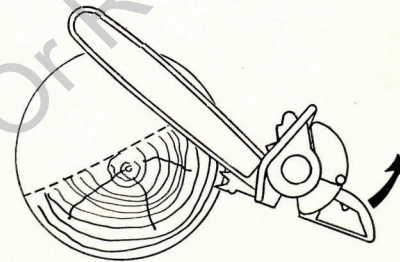

Figure 4—Pivot Action With Straight Blade
(3) Before making a cut, select a path of safe retreat to be used when the tree is falling. Clear all brush and obstructions from this path, and also from the immediate cutting area, so nothing will interfere with the saw. Observers should remain a safe distance from all sawing operations.
(4) Be sure of your balance at all times. When starting a cut always place the spikes against the wood (see figure 4) before engaging the chain. Otherwise, you may lose your balance as the chain jerks the saw toward the log.
(5) Always stand on the uphill side when bucking a log. When limbing or pruning high branches, do not stand under the branch being cut.
The cutting movement with a straight blade, called "pivot action", is fully explained in figure 4.
satisfactory cutting can be accomplished using the bottom section. Engage the saw spikes in the wood (same as straight blade sawing) and use pivot action to feed the chain into the wood. (See figure 4.) If the plunging spur is in the way, remove it by taking out the two screws holding the spur to the chain guide.